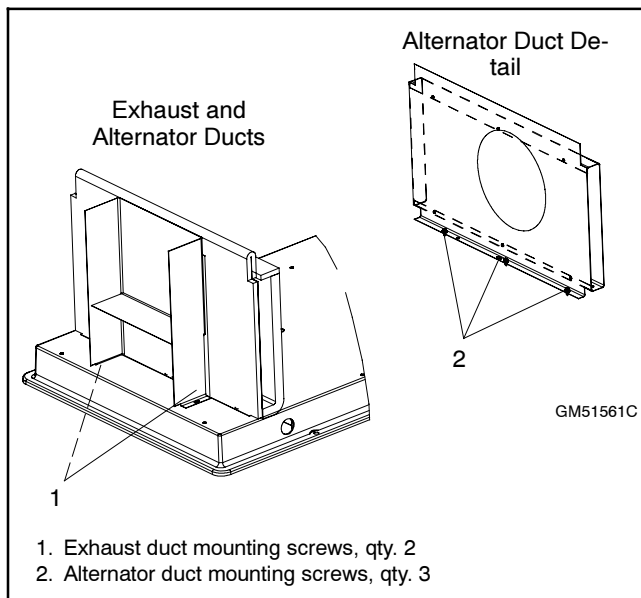

Figure 6-8 Exhaust and Alternator Ducts
- a. Remove two bolts securing the exhaust shield at the exhaust end and remove the shield. See Figure 6-8.
- b. Remove three bolts securing the alternator air inlet duct to the base and remove the duct. See Figure 6-8.